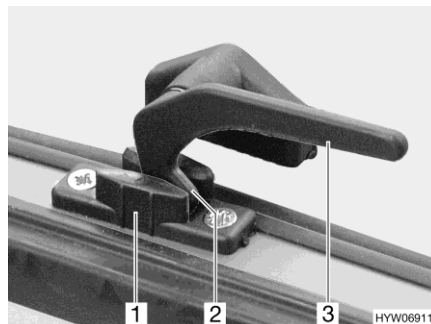

Fig. 58 Catch lever in "continuous ventilation" position
- "Continuous ventilation" (Fig. 58)
- Turn all catch levers (Fig. 58,3) a quarter turn towards the centre of the window.
- Return all catch levers to their initial position. The locking catch (Fig. 58,2) has to be moved into the recess of the window catch (Fig. 58,1).